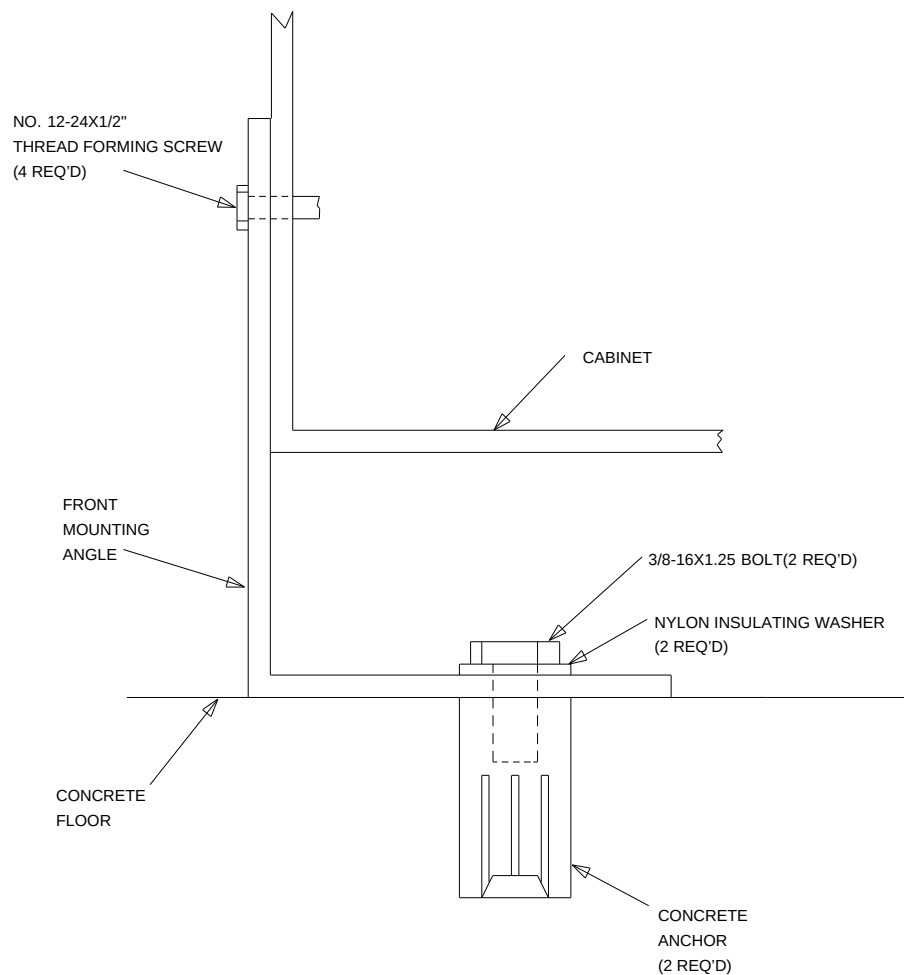

Figure 3-16. Front Mounting Angle—Concrete Floor
- d. Mount the Front Mounting Angle to the floor (see Figure 3-16).